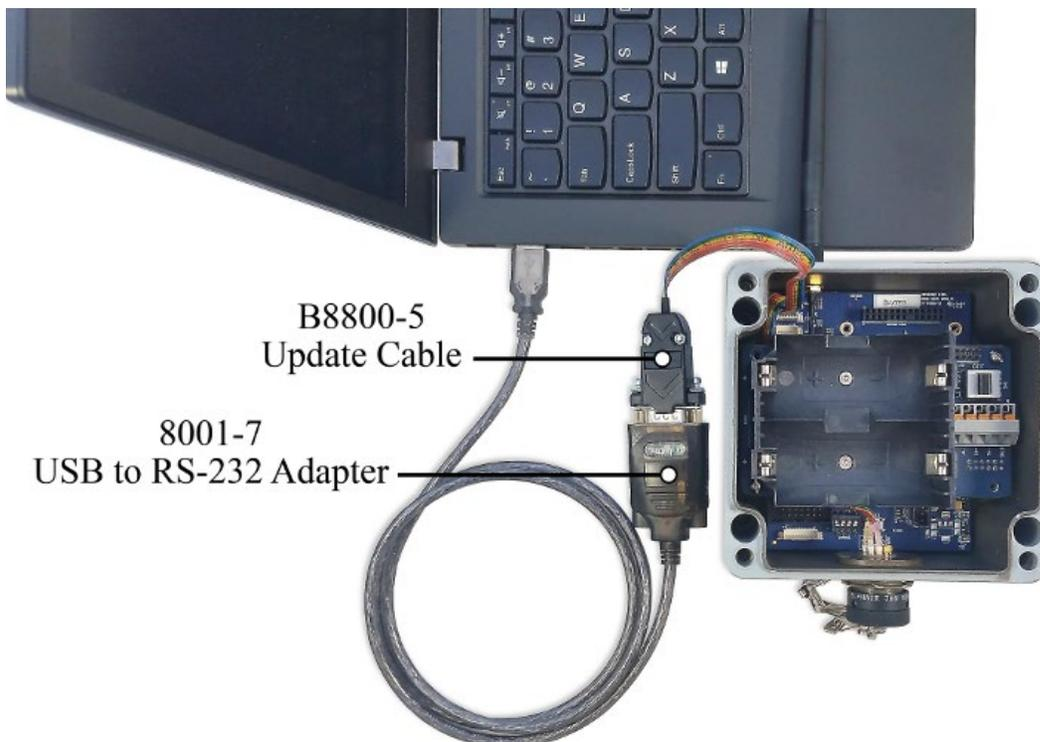

Figure 26 - Update Cable Detail
- c. Connect the *8001-7* cable to the computer. Figure 26 shows the completed connection.